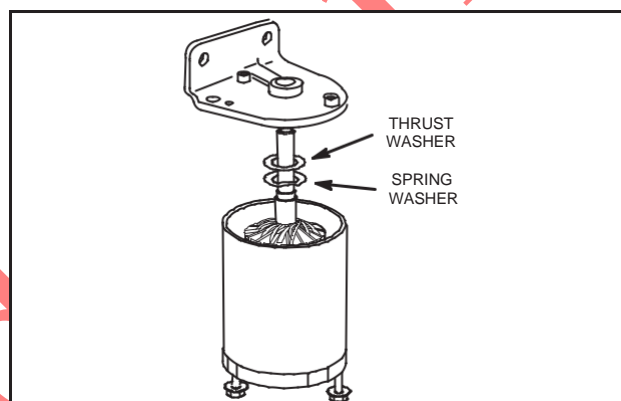

Fig. 17 - Install Drive End Cap
5. Assemble spring washer and thrust washer to armature shaft and install drive end cap, Fig. 17.